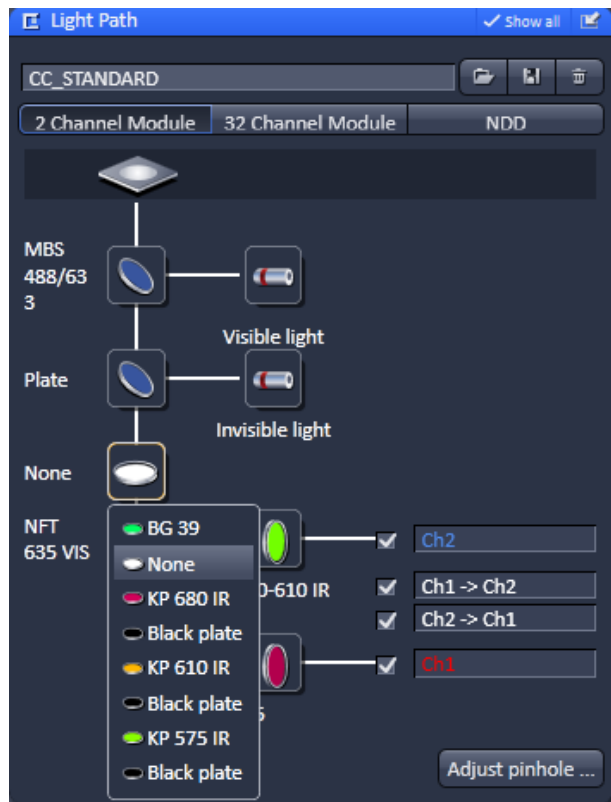

Fig. 233 Light Path panel with IBF filter list
- Click on the IBF icon to open a list of block filters (Fig. 233).